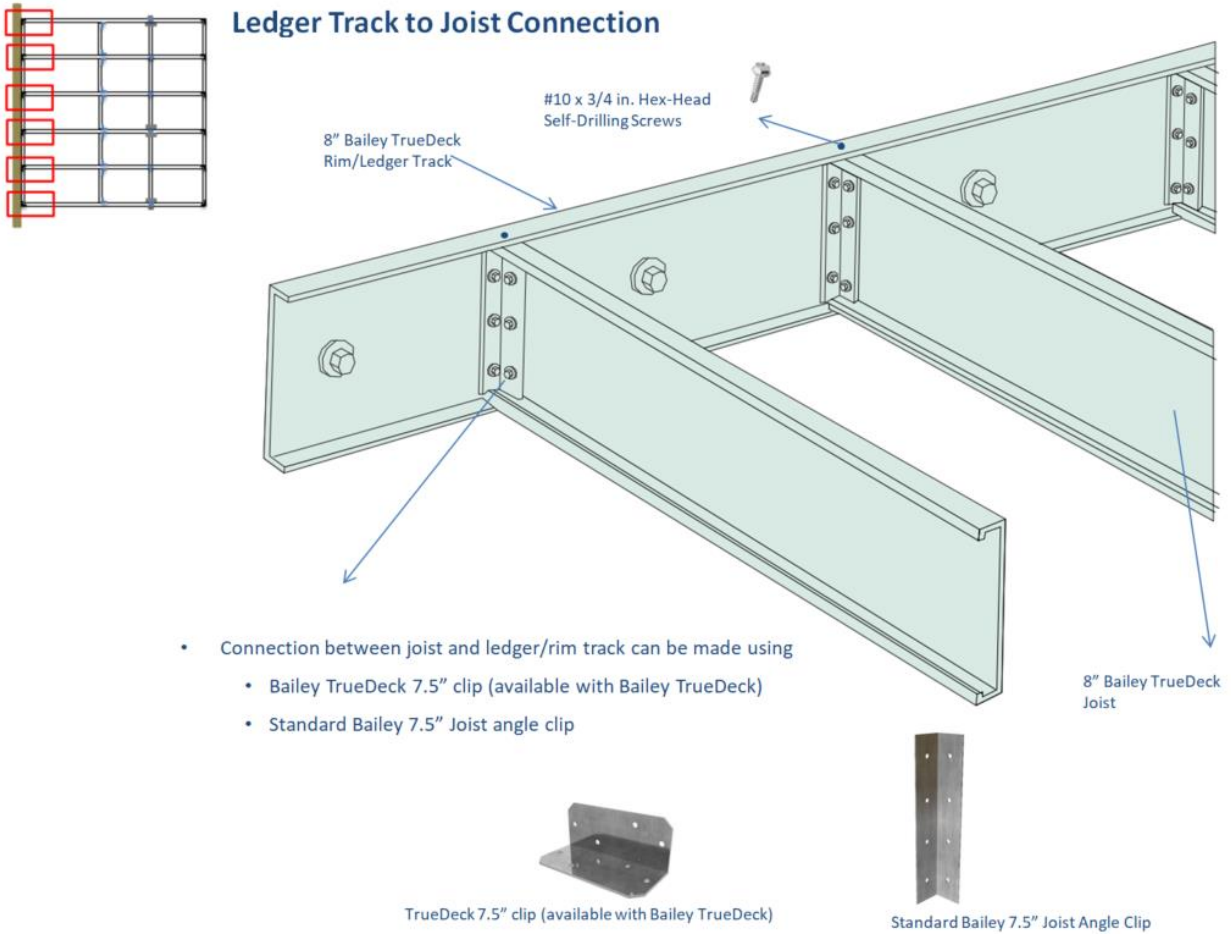

Figure 17
4. **Connect BAILEY TRUEDECK Joist to Ledger/Rim Track:** After connecting the beam to the post, next step involves connecting the BAILEY TRUEDECK joists to the ledger/rim track. The connection is achieved using a standard 7.5" BAILEY Joist Angle Clip or using a TRUEDECK 7.5" clip. We recommend using #10 x 3/4 in. Hex-Head Self-Drilling Screws for achieving the connections. Continue to place the other joist at the desired joist spacing (12 O.C. or 16 O.C). Refer to Figure 17 for connection details.